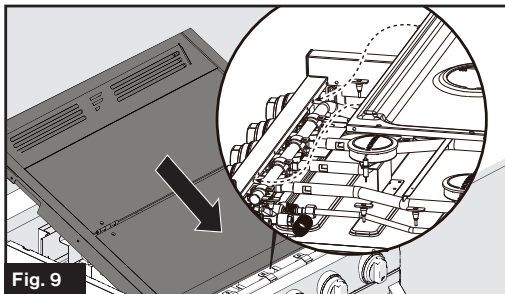

Fig. 9
1. Align the top glass cover assembly tabs x 2 with the slots on the back side of the console and place it into the top of the range cooktop. (Fig. 9)